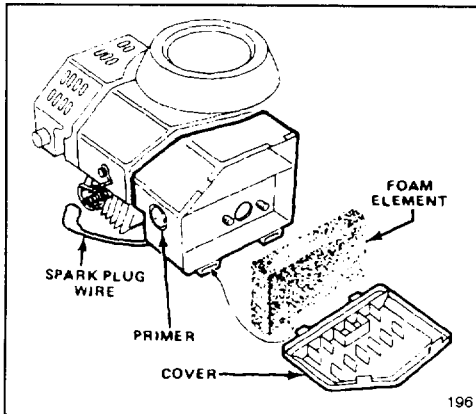

Figure 8
1. Stop engine and pull wire off spark plug (Fig. 8).
2. Lift tabs at top of air cleaner cover and pivot cover down. Clean cover thoroughly (Fig. 8).
3. If outside of foam element is dirty, remove it from air cleaner body (Fig. 8). Clean thoroughly.